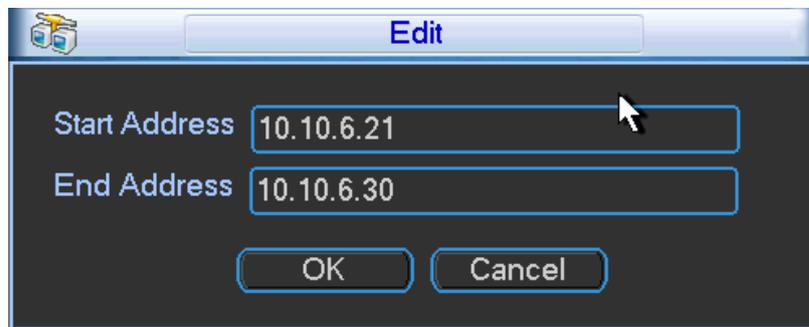

Figure 5-16
- Edit: Click it to edit start address and end address. See Figure 5-16. System can check the IP address validity after the edit operation and implement IPv6 optimization.